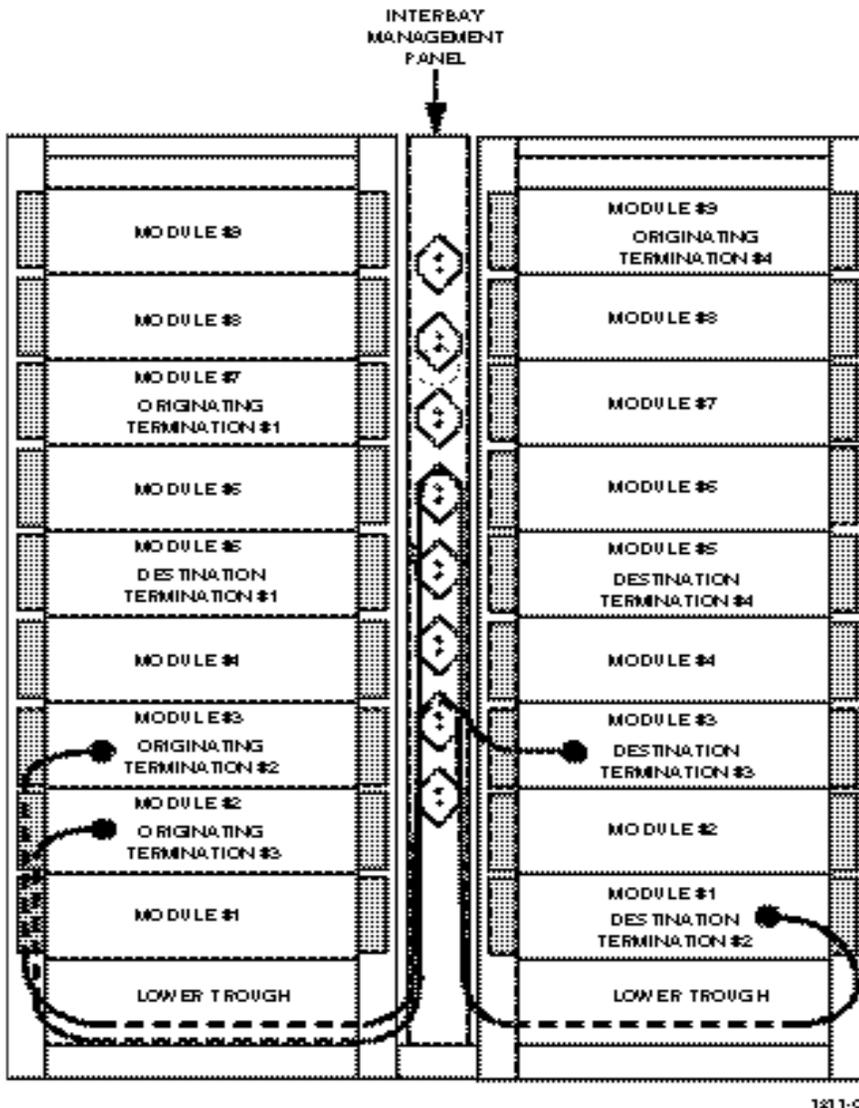

Figure 4-1. Sample Lineup with Fiber Distribution Frames
4.0.1 The Fiber Distribution Frame, shown in Figure 4-1, is a modular frame assembly that provides a central location for terminating, splicing, and connecting optical fibers. The FDF may also hold VAMs to enhance optical function using wave division multiplexers, splitters, variable attenuators, and optical switches.